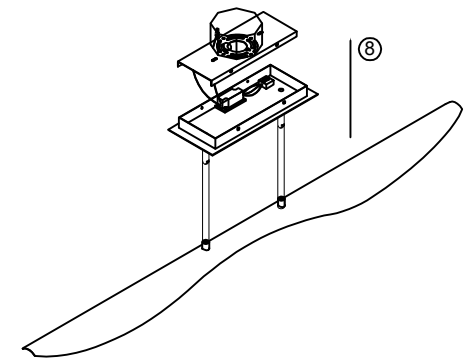

Fig.6
9. Place the fixture over the mounting bracket. Install the screws on the sides of the fixture to secure into the ceiling (Fig. 6)